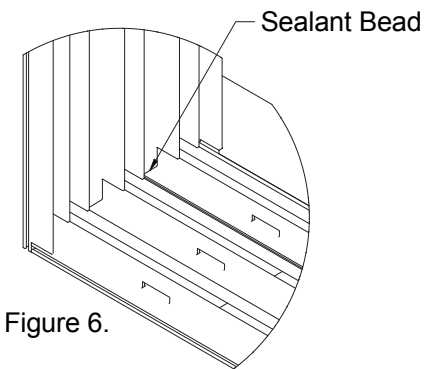

Figure 6.
**Step 9. (Frame Corner Sealant)** Once all installation screws have been properly installed, apply a bead of sealant and tool at the frame sill to frame jamb joint (See Figure 6).